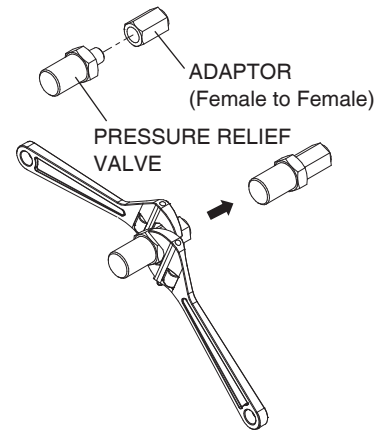

Figure 1
- 1.1. Install the pressure relief valve (0151V00000) on the adaptor (0151V00003) (1/4 NPTF Female side). Use heat resistant sealant (field supplied) to ensure proper sealing. (Figure 1)